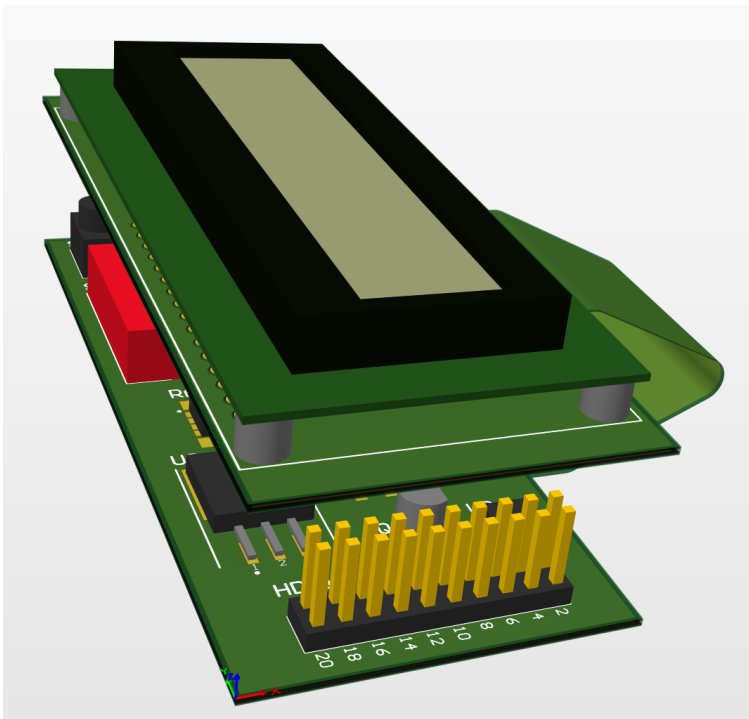

Figure 15. Folded Boards in 3D folded one on top of the other
33. Select menu **View » 3D View Control » Fold/Unfold** or press the **5** key. The board should fold up as shown in Figure 15 with the LCD above the lower rigid region. Press the **5** hotkey to unfold the design.